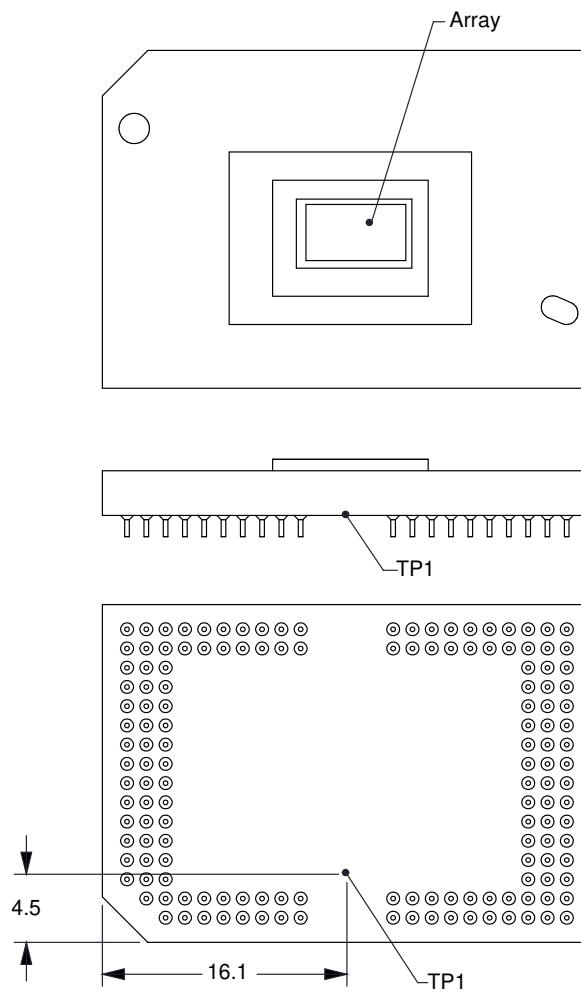

Figure 17. Thermocouple Locations
Relationship between array temperature and the reference ceramic temperature (thermocouple location TP1 in Figure 17) is provided by the following equations.
- $T_{CERAMIC}$ = measured ceramic temperature (TP1 location in Figure 17) (°C)